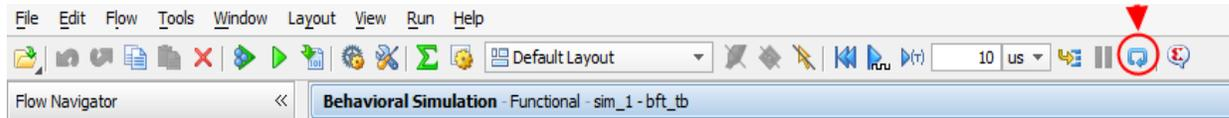

Figure 3-17: relaunch sim option
- Use the Relaunch  button on the Vivado IDE toolbar to re-compile and re-launch the simulation as shown in Figure 3-17. You may alternatively use the `relaunch_sim` Tcl command to re-compile and re-launch the simulation.